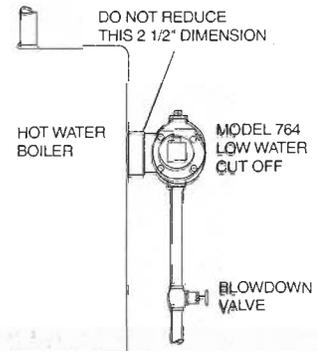

Figure 1
- a. See figure 1. The 2 1/2" (65mm) tapping on the boiler has to be above the minimum safe operating level, as determined by the boiler manufacturer. On steam boilers, make sure the line on the casting is above the lower gauge glass nut. **NOTE:** Do not reduce the 2 1/2" (65mm) tapping, as this would compromise low water protection.